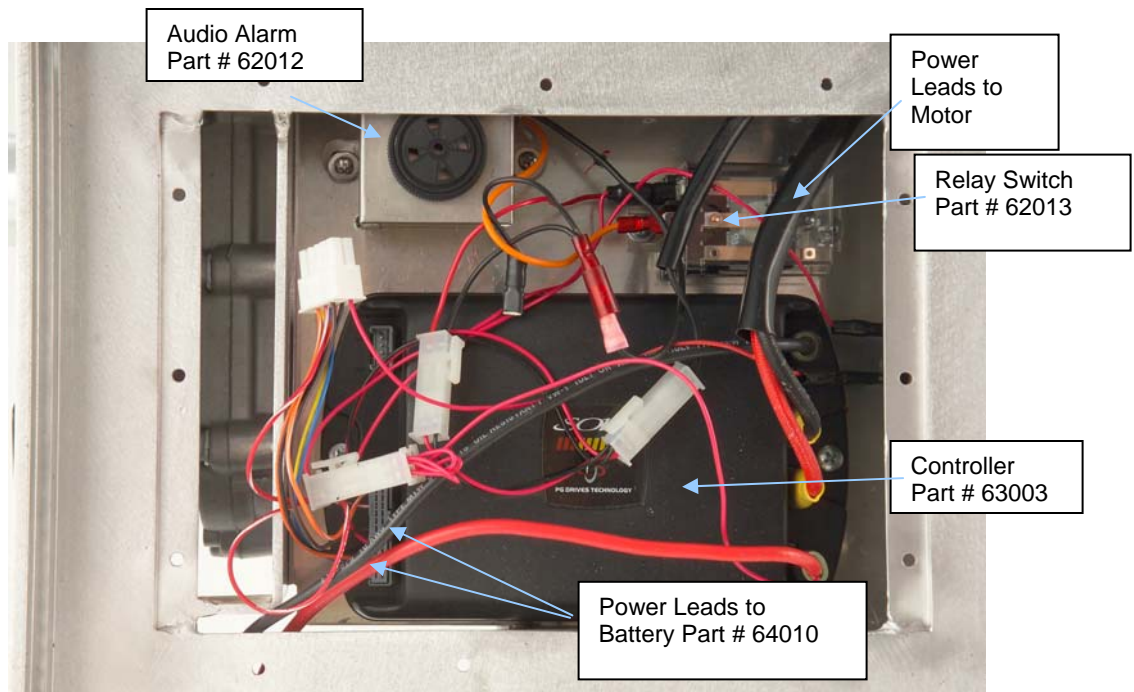

Fig. 7j Solo Controller (sold prior to March 2011)
- 6) Disconnect the two power leads from the motor (Fig. 7j).
7.5 Controller Enclosure (Fig. 7j & 7k)